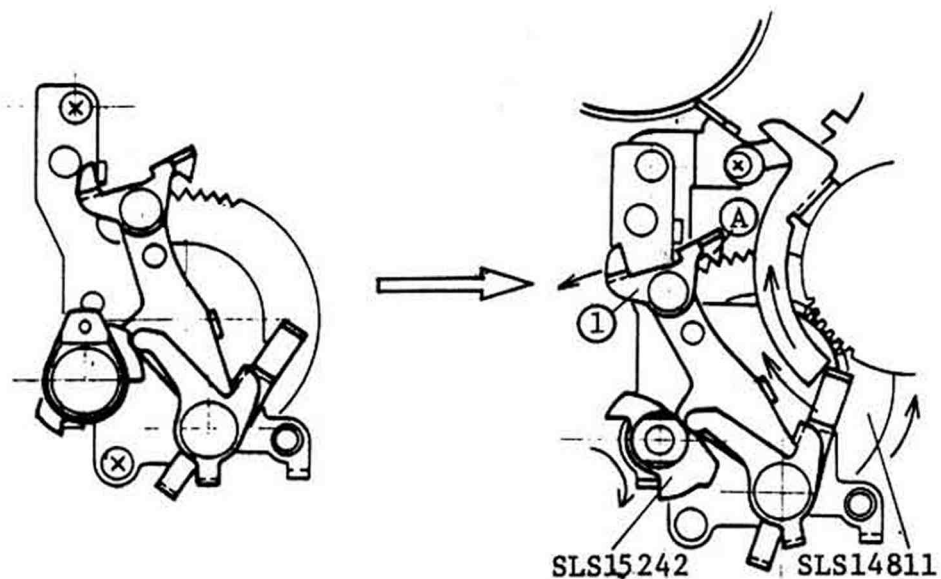
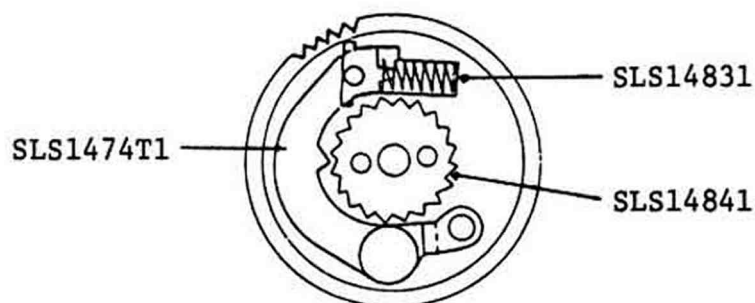

Fig.80
Fig.81
- 1) When setting the multiple-exposure lever to Multi, the SLS15242 Cam turns about 1/4 turn (90°) in direction shown by the arrow in Fig. 80.
- 2) As the ①-Lever moves in direction shown by the arrow, the F.clutch wheel is turned counterclockwise by ①-pawl engages with the SLS 14811 F.clutch wheel.
- 3) The SLS1474T1 Clutch in the F.clutch wheel moves in direction shown by the arrow. Consequently, it is detached from the SLS14841 Ratchet gear as shown in Fig. 81.